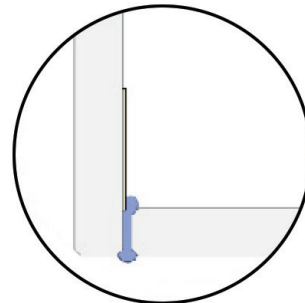

FIG 13.
- Gently place glass to glass panel into siliconed floor channel and tilt gently upwards until it joins to glass to wall panel (**FIG 13**). Ensure there is no side to side movement while placing panel as this will smear silicone.